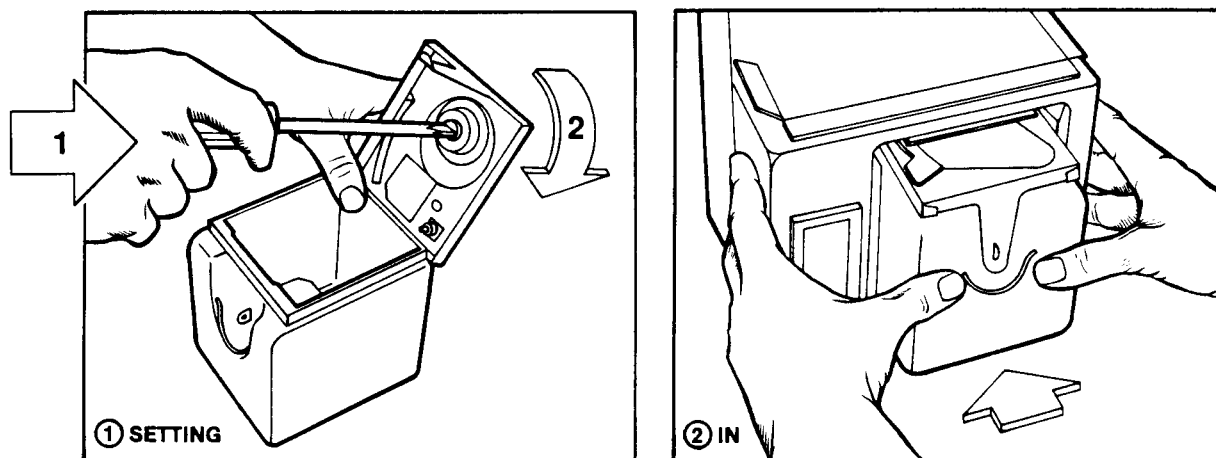

Figure 29 Coin Box
1. Reset lock on top of coin box by pushing IN with a screwdriver and turning. Refer to Figure 29.
2. Place coin box back into coin vault (handle facing out), and push in. (Note: When pushing the coin box into the vault, apply pressure at the top front surface and slightly more pressure to the left side. Refer to Figure 29.)